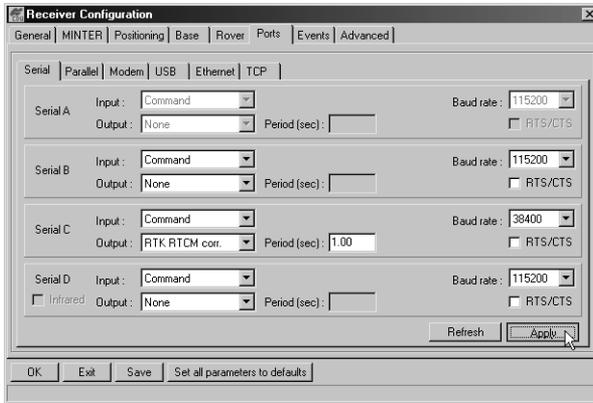

Figure 3-15. Base Configuration – Ports
12. Select the **Ports** tab and set the following port parameters (Figure 3-15 on page 3-21). Use serial port C for an internal PDL, GSM, or Spread Spectrum 915 MHz/2.4 GHz modem.